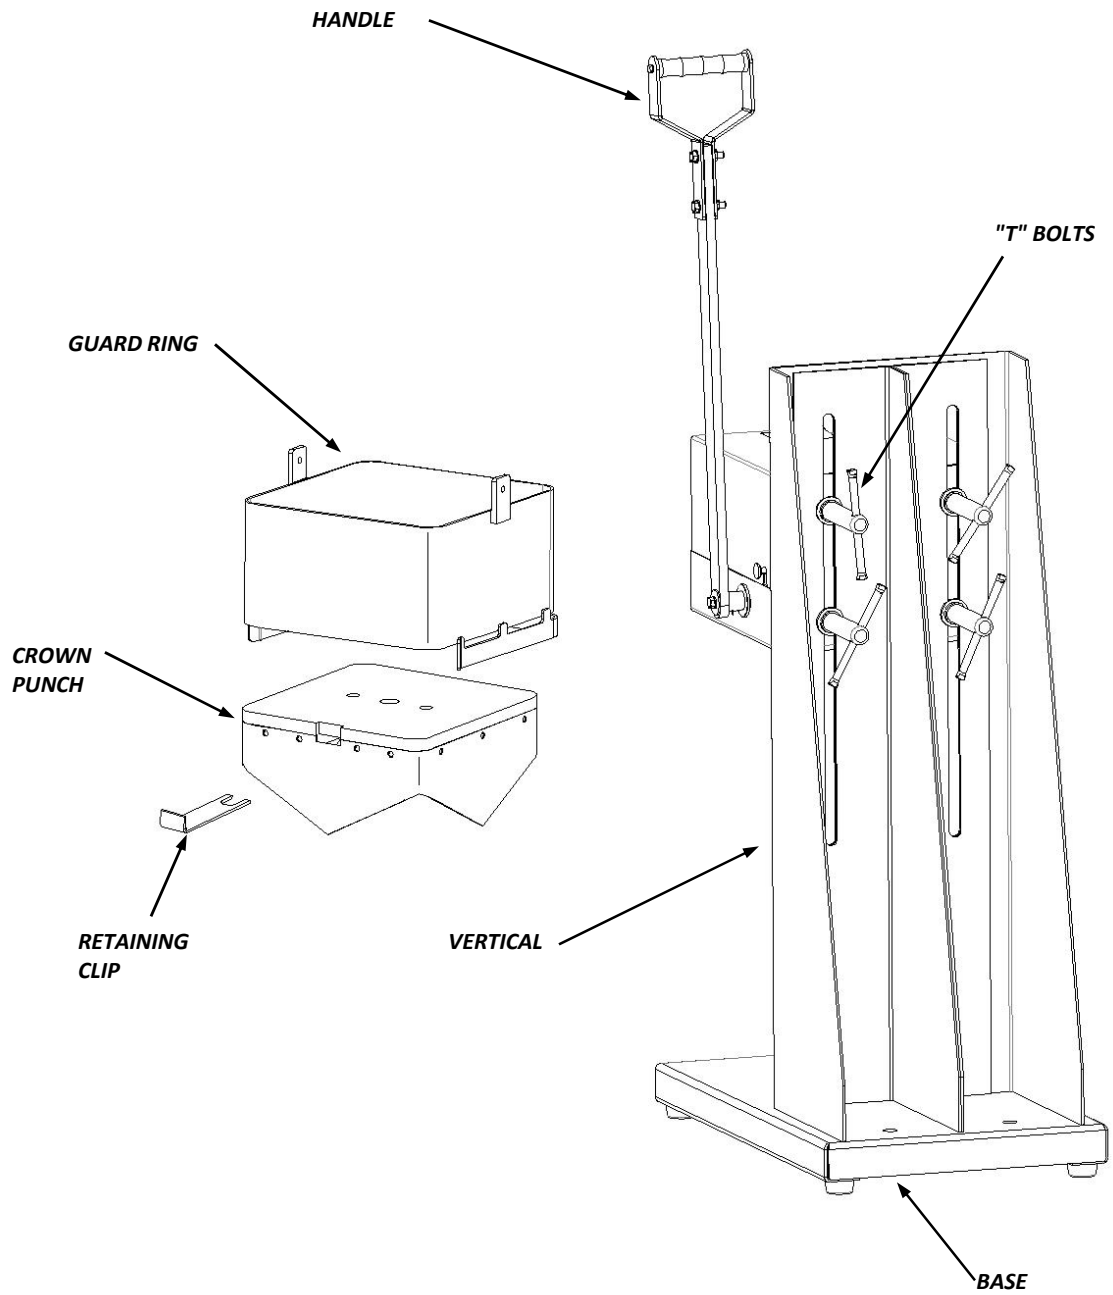

Figure 2
NOTE: The model shown in Figure 2 may look slightly different from your machine.
2. Loosen the four (4) "T" bolts at the rear of the vertical (Figure 2) and raise or lower the Head as needed, keeping the can and guard ring aligned and level.
2. Let the guard ring down and set it aside. Now hold up on the crown punch with one hand (being careful of the pointed edges), and with the other hand, pull the retainer clip straight out (Figure 2 on page 8 ).
Remove the crown punch, guard ring, and retainer clip (Figure 2 on page 8) after every use for cleaning. You may rinse down the entire machine with soap and water to remove any residue from the unit.